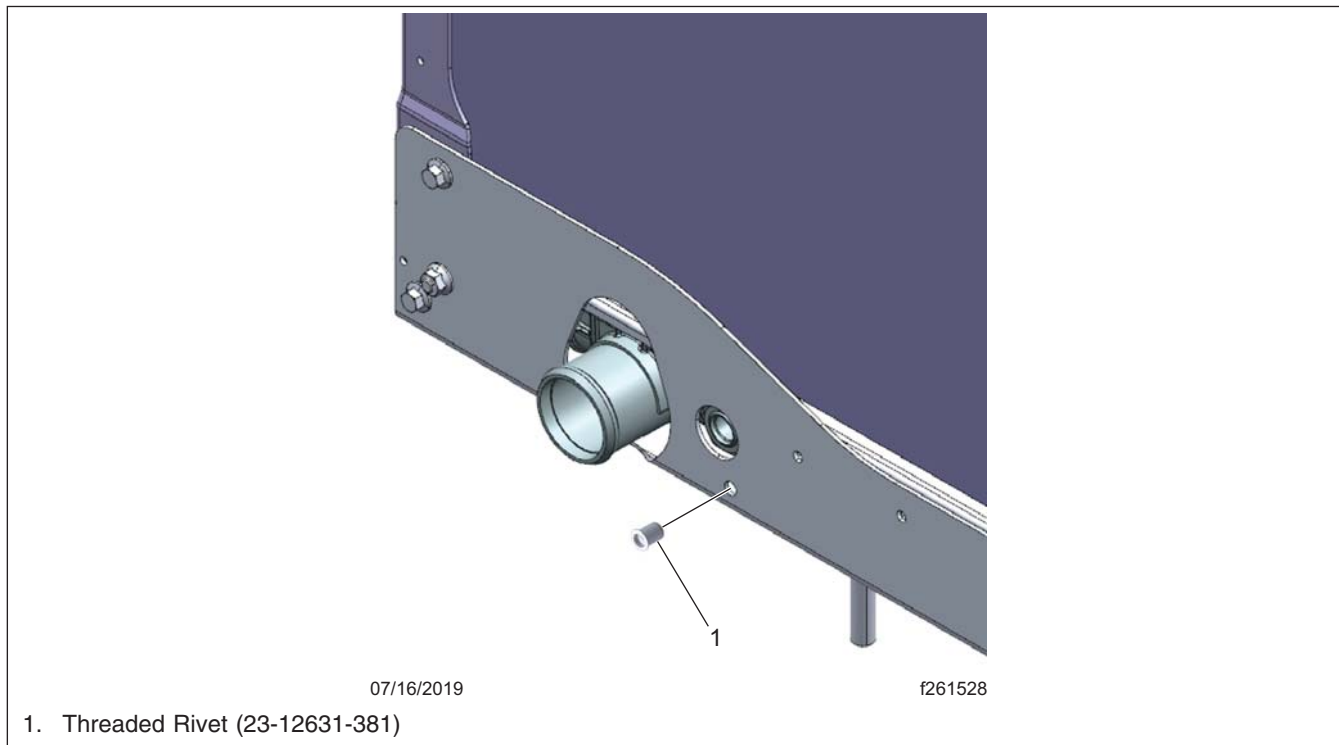

Fig. 7, Threaded Rivet for Jumper-Line Support Bracket
- 16.1 If the radiator frame already has a drilled hole for the jumper-line support bracket, install the threaded rivet (23-12631-381) in the radiator frame. See Fig. 7. Proceed to step 20, fitting the jumper tube assembly.